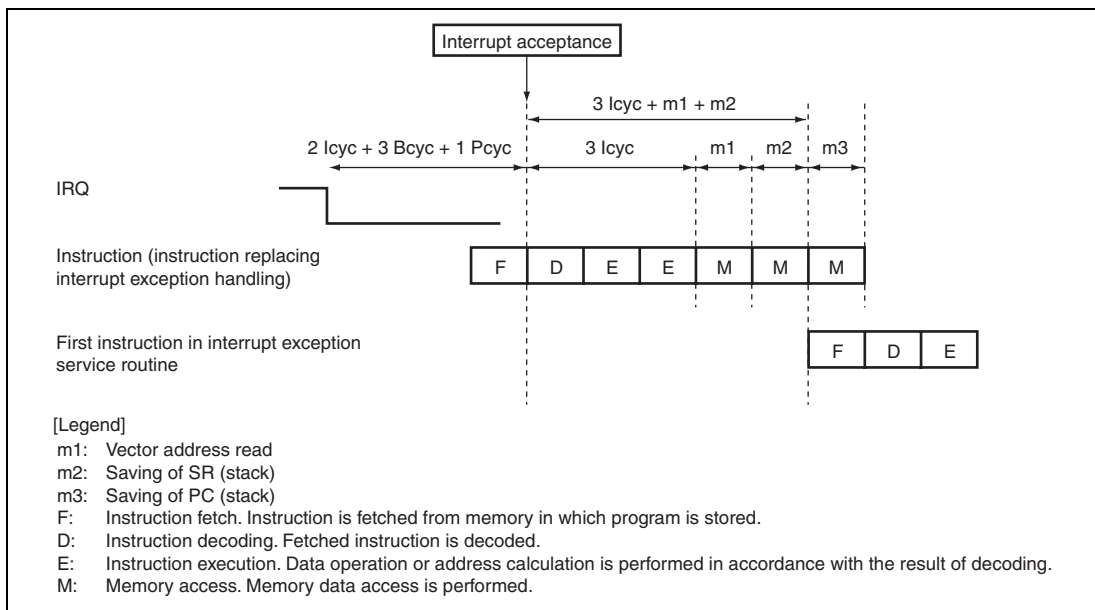
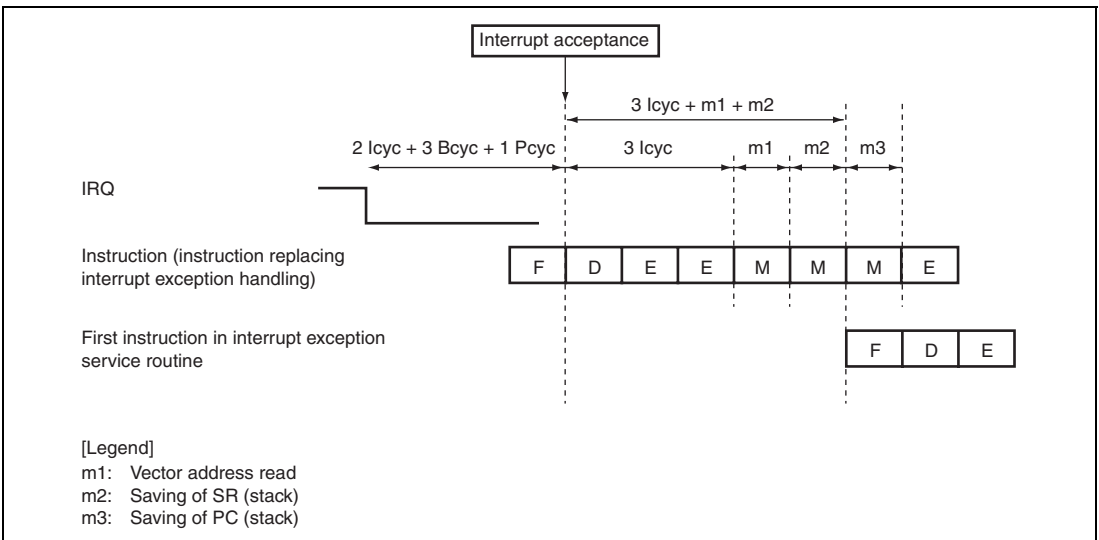
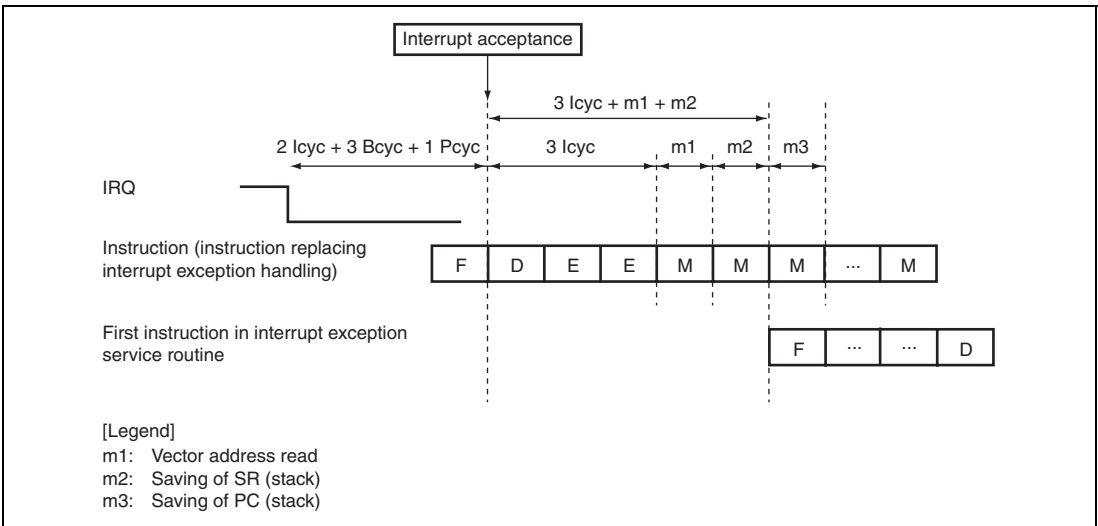

Figure 6.4 Example of Pipeline Operation when IRQ Interrupt is Accepted (No Register Banking)
Figure 6.6 Example of Pipeline Operation when IRQ Interrupt is Accepted (Register Banking without Register Bank Overflow)
Figure 6.8 Example of Pipeline Operation when IRQ Interrupt is Accepted during RESBANK Instruction Execution (Register Banking with Register Bank Overflow)
3. The priority level of the interrupt selected by the interrupt controller is compared with the interrupt level mask bits (I3 to I0) in the status register (SR) of the CPU. If the interrupt request priority level is equal to or less than the level set in bits I3 to I0, the interrupt request is ignored. If the interrupt request priority level is higher than the level in bits I3 to I0, the interrupt controller accepts the interrupt and sends an interrupt request signal to the CPU.
5. The CPU detects the interrupt request sent from the interrupt controller when the CPU decodes the instruction to be executed. Instead of executing the decoded instruction, the CPU starts interrupt exception handling (figure 6.4).
7. The status register (SR) is saved onto the stack, and the priority level of the accepted interrupt is copied to bits I3 to I0 in SR.
8. The program counter (PC) is saved onto the stack.
Table 6.5 lists the interrupt response time, which is the time from the occurrence of an interrupt request until the interrupt exception handling starts and fetching of the first instruction in the exception service routine begins. The interrupt processing operations differ in the cases when banking is disabled, when banking is enabled without register bank overflow, and when banking is enabled with register bank overflow. Figures 6.4 and 6.5 show examples of pipeline operation when banking is disabled. Figures 6.6 and 6.7 show examples of pipeline operation when banking is enabled without register bank overflow. Figures 6.8 and 6.9 show examples of pipeline operation when banking is enabled with register bank overflow.